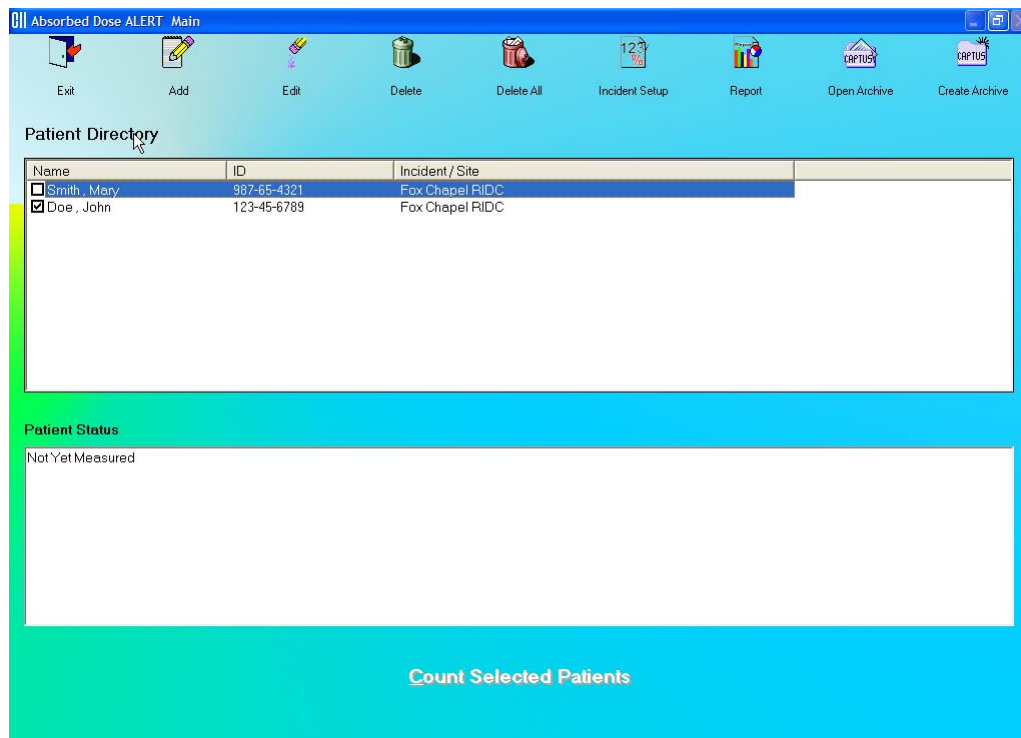

Figure 9-15
- To select (highlight) a patient to be edited, use the ↑ and ↓ keys or *Page Up* and *Page Down* keys to move up or down in the patient list. If the list is long, the scroll bar is also available. To reach a particular patient, press the first letter of the patient name. Press the ↓ key if necessary, to go further down (Figure 9-15).